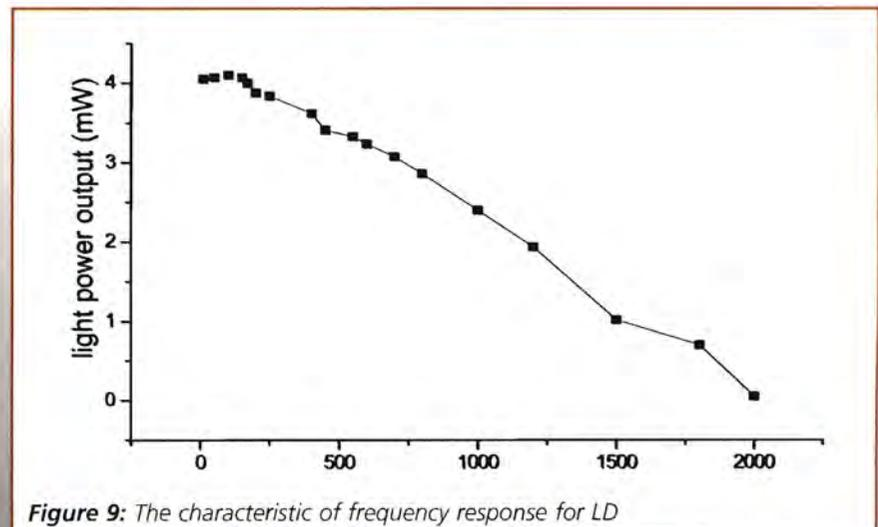

Figure 9: The characteristic of frequency response for LD
**Figure 9** is the characteristic of the frequency response for the LD. From this figure, we can see that when the modulation frequency is about 1MHz, the output light power of the LD drops to half value of the direct current.